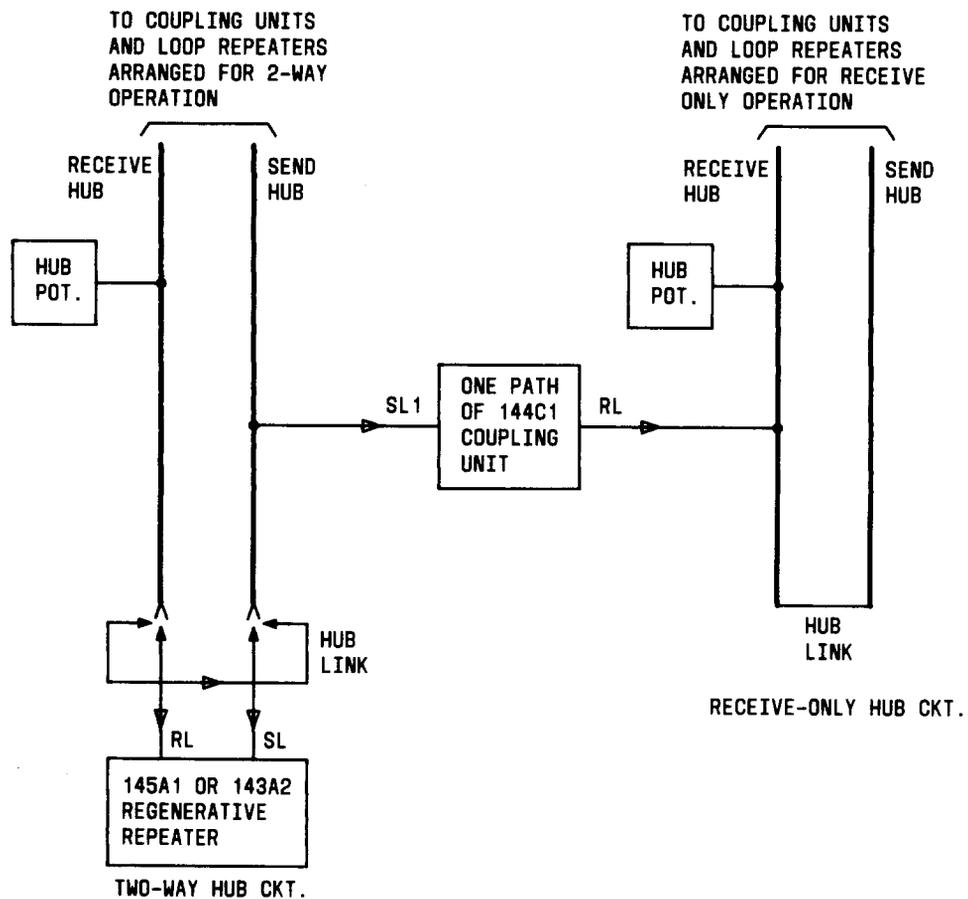

Fig. 2—Connection of Two-Way Hub Circuit to Receive—Only Hub Circuit
**3.01** The 144C1 coupling unit may be used to repeat signals from one hub to a second hub. For this application, the coupling unit receives the regular +60 volt mark/-30 volt space hub voltages from either a hub potentiometer or from the output of a regenerative repeater. The output of the coupling unit connects to a hub potentiometer. Figures 2 and 3 show two examples of how the 144C1 coupling unit may be used to interconnect half-duplex hub circuits. Other specific applications are shown on various serviceboard BSPs and SD drawings.
**3.02** Figure 2 shows the 144C1 coupling unit interconnecting a hub circuit of receive only legs to a two-way, half-duplex hub circuit of the same concentration group. Interconnection of two or more hubs in this manner is occasionally necessary in order to split a hub to reduce electrical capacity to ground. For simplification, Fig. 2 shows only one path of the 144C1 coupling unit in use. If needed, the other path of the coupling unit may